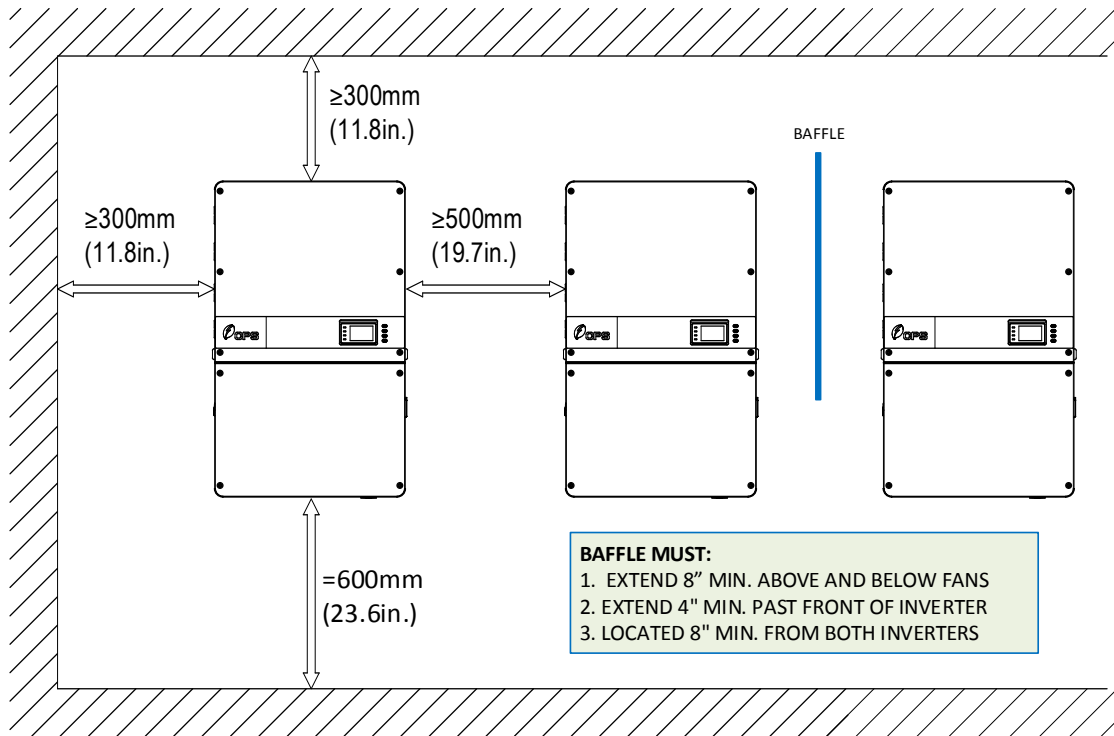

Figure 3-3 Inverter Wall Mounting Dimensions
- ✓ Sufficient space according to Figure 3-3 and Figure 3-4 must be provided to allow the inverter cooling system to operate effectively.